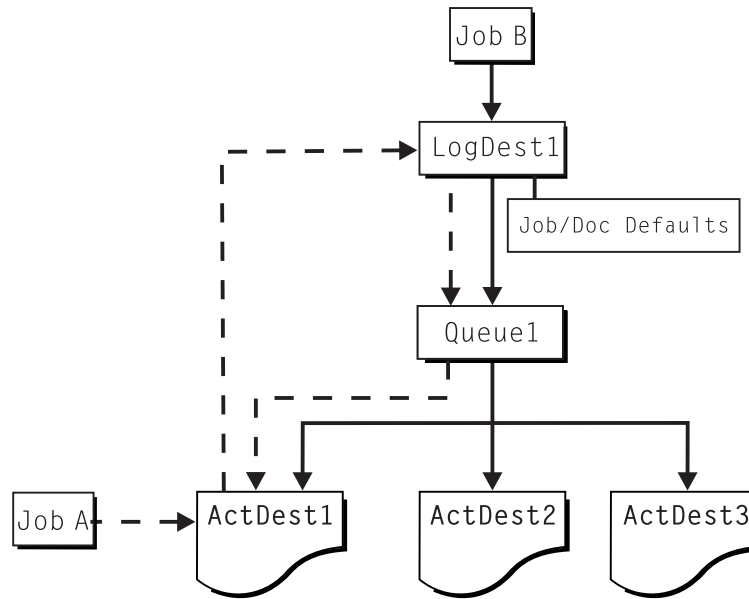

Figure 1. Infoprint Manager print flow. Job B is submitted directly to a logical destination, while Job A is submitted to an actual destination
In the most common configuration, you submit jobs to an Infoprint Logical Destination (LD). The LD forwards the job to a print queue, and the print queue forwards the job to an Infoprint Actual Destination (AD). The AD then sends the job to the printer. See **Job B** in Figure 1 on page 3 for an illustration. This configuration is especially useful if you have multiple printers and want to balance the workload between them.
Another common configuration is to submit jobs directly to the AD. The AD then forwards the job to the LD that is associated with it. The LD sends the job to a print queue, and the print queue sends the job back to the AD where it started. Then, the AD sends the job to the printer. See **Job A** in Figure 1 on page 3 for an illustration. This configuration is particularly useful when you need to make sure jobs are sent to a specific printer.
Logical destinations are objects in your Infoprint Manager system that you can submit jobs to. In the simple print model shown in Figure 1, the Infoprint Manager environment has one default logical destination. You may want to add more logical destinations to support specific types of jobs and specific groups of job submitters. When you create an additional logical destination, you specify a name for the logical destination and associate it with a specific queue. The logical destination and the queue must reside in the same Infoprint Manager server.
A queue receives jobs from one or more logical destinations and routes jobs to one or more actual destinations. The queue holds a job until an actual destination capable of processing the job becomes available. In the simple print model shown in Figure 1, the Infoprint Manager environment has one default queue. The queue and the actual destination to which it sends jobs do not have to be in the same